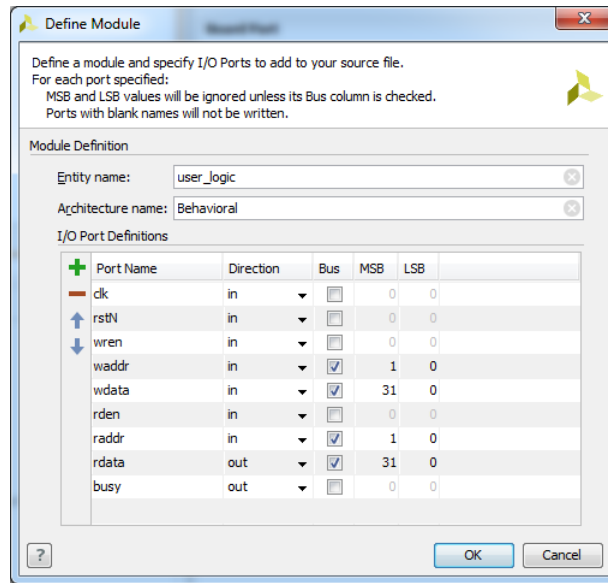

Figure 1: Define Module Dialog Box
3. Create a new project in Vivado, the same way it was done in the introductory lab. Add a new design source, called `user_logic.vhd`, and using the **Define Module** dialog box (pops up once you added the source), define the **I/O Port Definitions** as mentioned above (see also Figure 1). This is the top module of your design, for now.